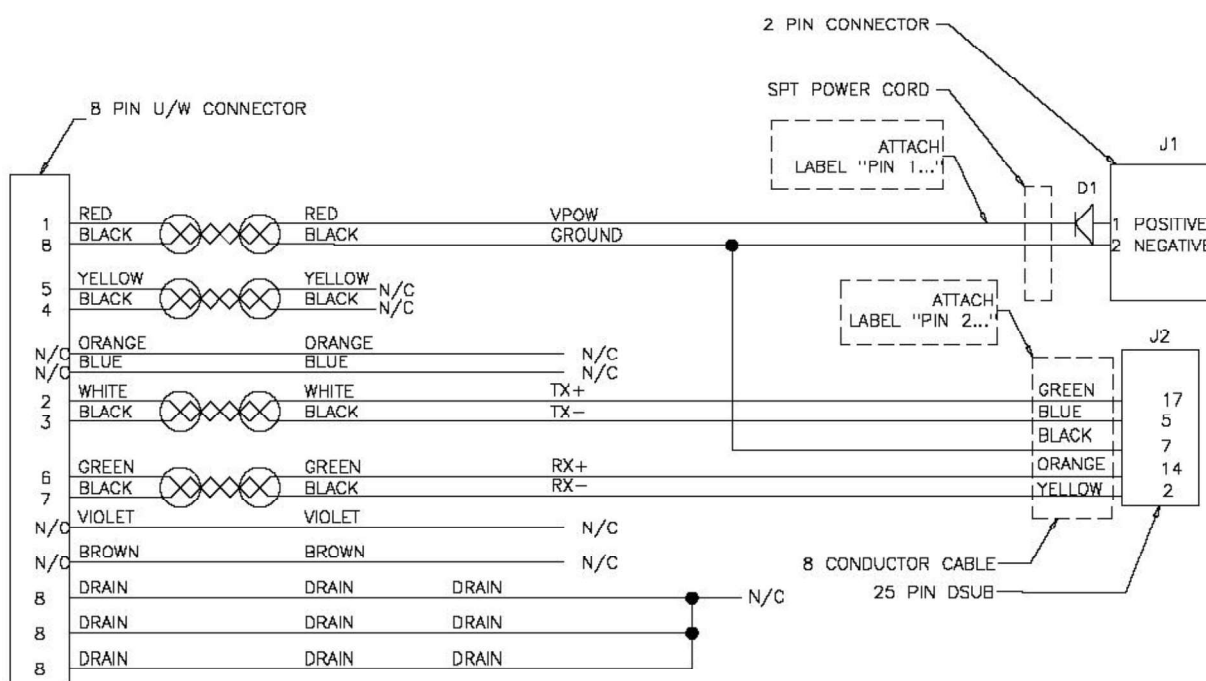

Figure 7-7. 1500 & 3000-kHz Original Canister Housing SL Power/Comms Cable wiring diagram (RS-422)
- Figure 7-7 shows the wiring of the 1500 and 3000-kHz SL power and communication cables for systems using the RS-422 communications protocol.
Cable/connector description for 1500 and 3000-kHz original canister housing SL systems that support RS-422 communications cannot support SDI-12 or Flow Display. The dry end of this cable has two connectors. Refer to Figure 7-7.